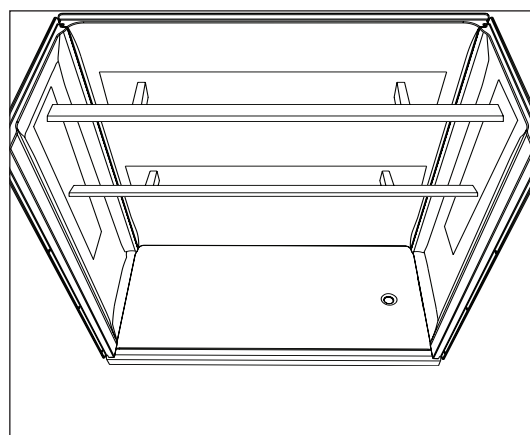

FIGURE 9. Apply pressure by cross bracing left and right panels while also applying pressure to the back panel.
- Panels must be held tight to studs during drying process. Apply pressure to panels while adhesive dries with cross bracing. (Fig. 9)